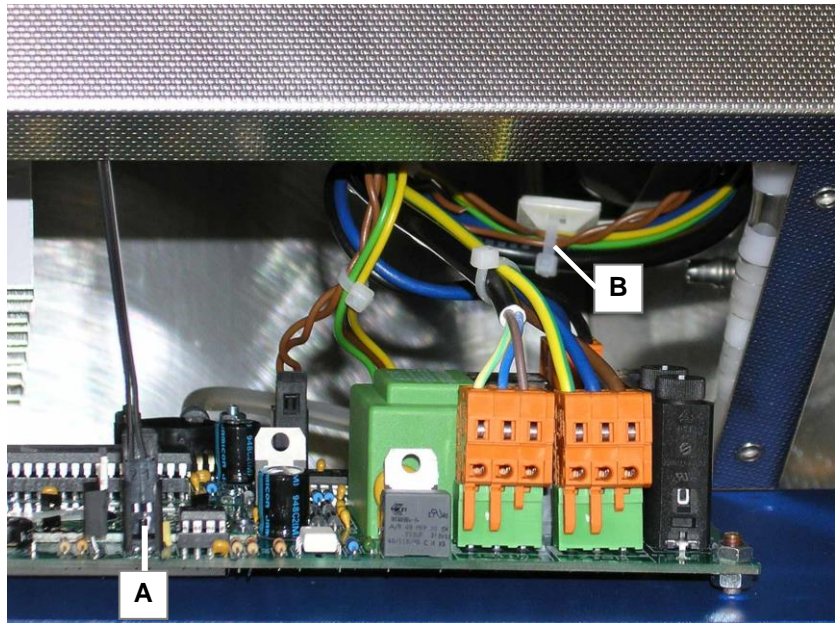

Fig. 5.4 Pull off the LED connection cable – cut the cable clip
4. Pull the electric contact of the LED connection (*fig. 5.4.A*) off the circuit board.
5. Cut the cable clip (*fig. 5.4.B*) to allow some space to remove the operating panel from the unit.